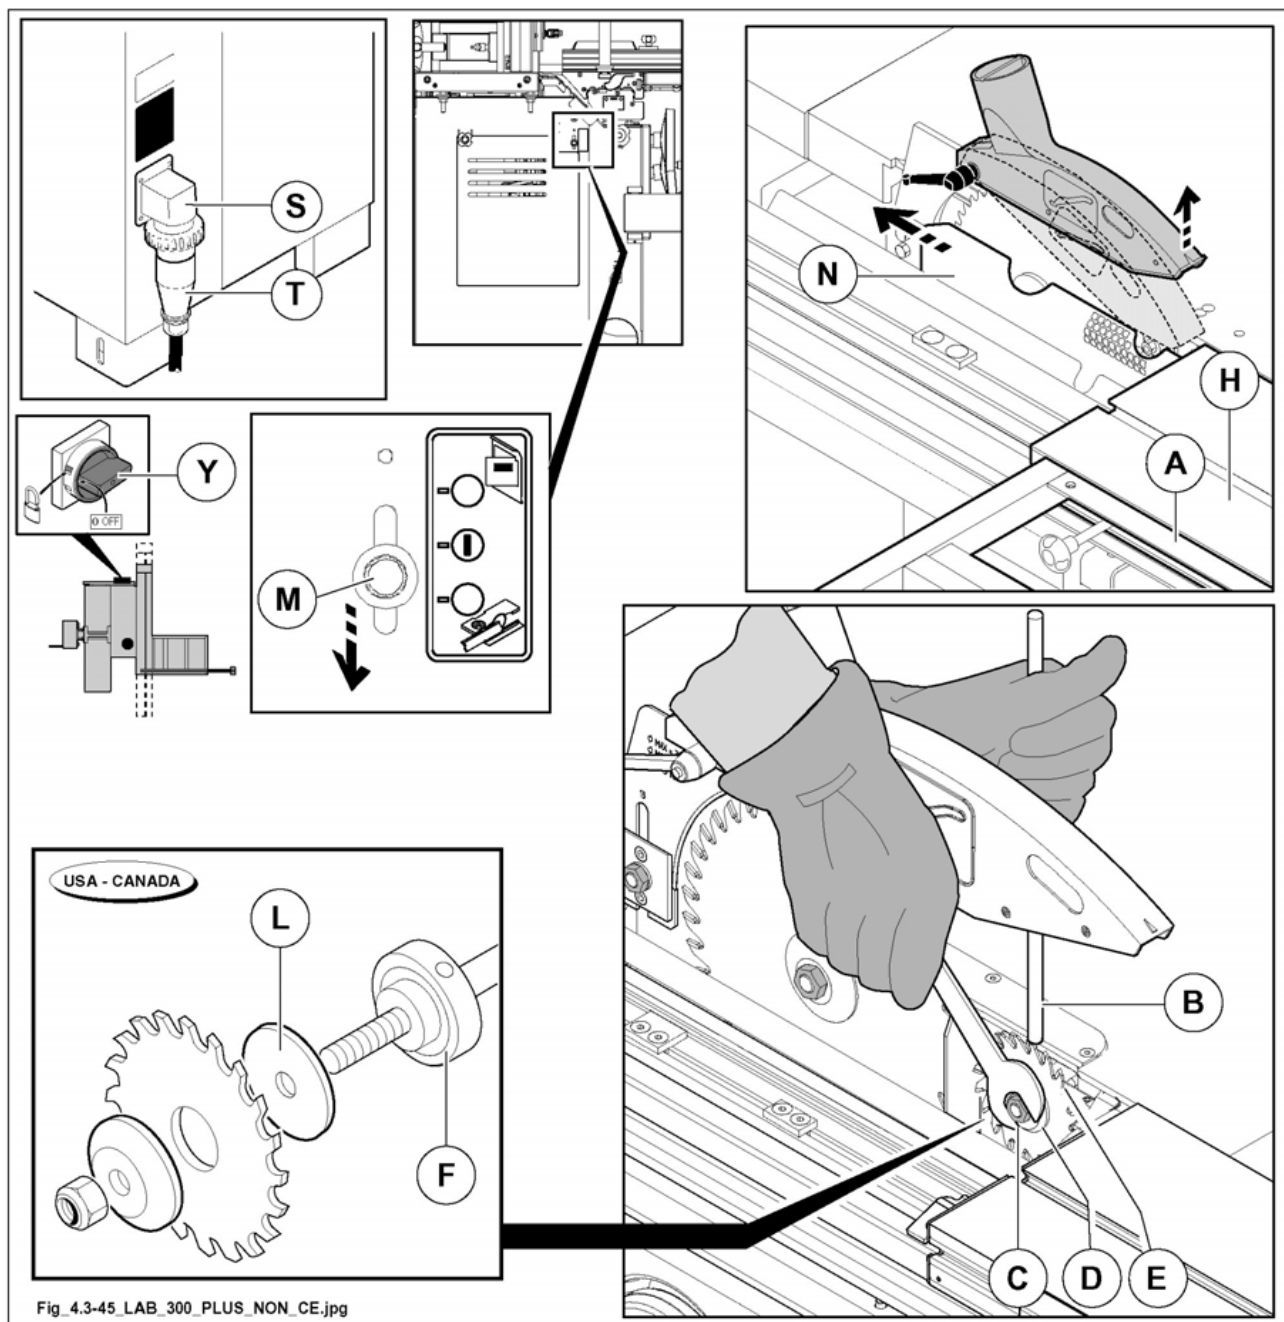

Fig. 4.3-45
U.S.A. and CANADA version:*before carrying out maintenance operations, adjustments or to dismount any machine member turn main switch (Y fig. 4.3-45) to 0, lock it then indicate this with a sign.*
- 1) position the squaring frame (A fig.4.3-45) as shown in the figure and translate the wagon (H fig.4.3-45) completely to the right.
- 2) Lower the lever (M fig.4.3-45) and open the guard (N fig.4.3-45).
- 3) Fit pin (B fig.4.3-45) in the blade-holding flange hole.
(U.S.A. and CANADA version) *a limit switch ensures that with guard (N fig. 4.3-45) open the motor can not be started.*
- 4) Loosen the lock nut (C fig. 4.3-45) using a 13 mm hex wrench and remove flange (D fig. 4.3-45).
- 5) In sequence mount the blade (E fig. 4.3-45) with the teeth opposed to the ones of the saw, the flange (D fig. 4.3-45) and the nut (C fig. 4.3-45).
- 6) Tighten the nut using the 13 mm wrench and the pin (B fig. 4.3-45).
for safety reasons you must close guard (N fig. 4.3-45), otherwise:
in the U.S.A. and CANADA version, the scoring unit is set for use with double blade. If the simple (single) blade is needed, position the supplied thickness (L fig. 4.3-45) between flange (F fig. 4.3-45) and the blade.